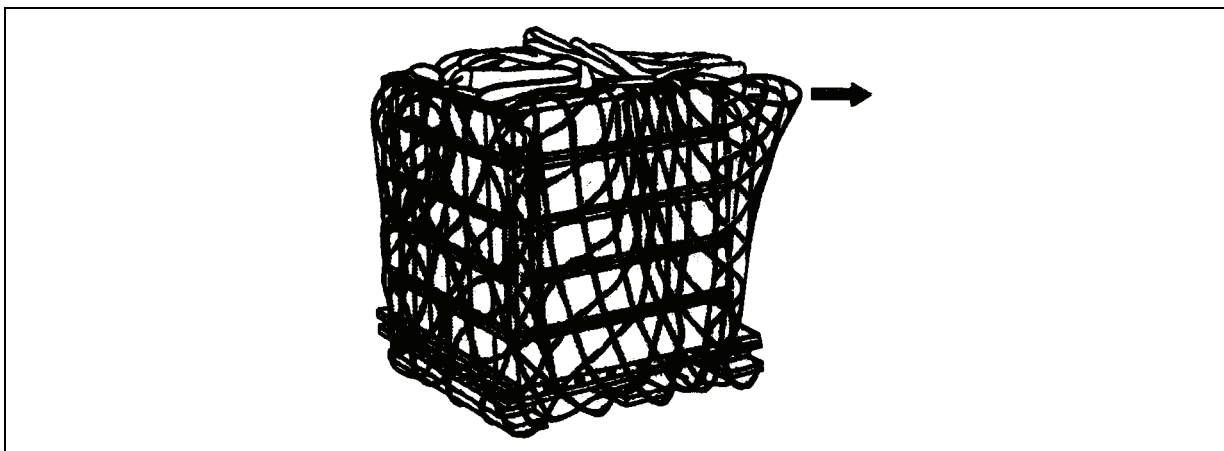

Figure 7-11. Excess Net Taped to Itself
- After you finish tying the legs and net on top of the load, pull the net outward at each corner, grasp the border cord from each side near the corner of the load, and tape them together to tighten the sides of the net. Take the excess netting at the corner and tape to the adjoining side. At each side, pull the net up as high as possible and tie it to itself (breakaway technique see cotton webbing, paragraph 8-9, page 8-20) to prevent it from snagging on the load and tearing the net (Figure 7-11). Use only enough tape to hold the net in place on the load.